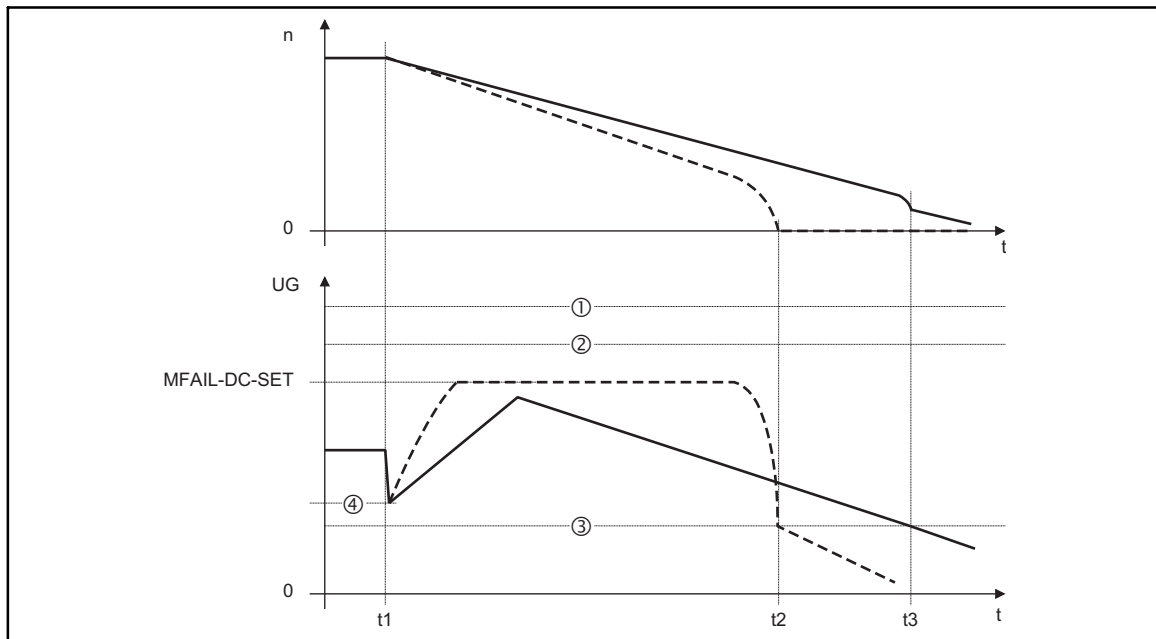

Fig. 2-98
3. An increase of the deceleration time or reduction of the brake torque (see Fig. 2-98) is only possible with restrictions: